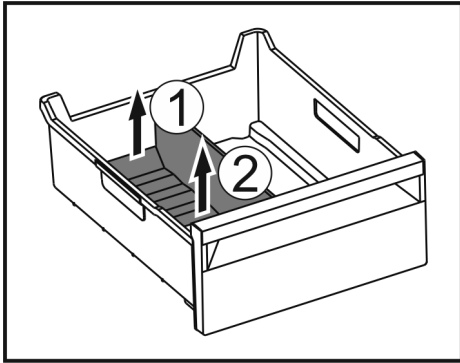

Fig. 195
- ▶ Lift the rear part of the ice compartment divider. Fig. 195 (1)
- ▶ Remove the ice compartment divider upwards. Fig. 195 (2)